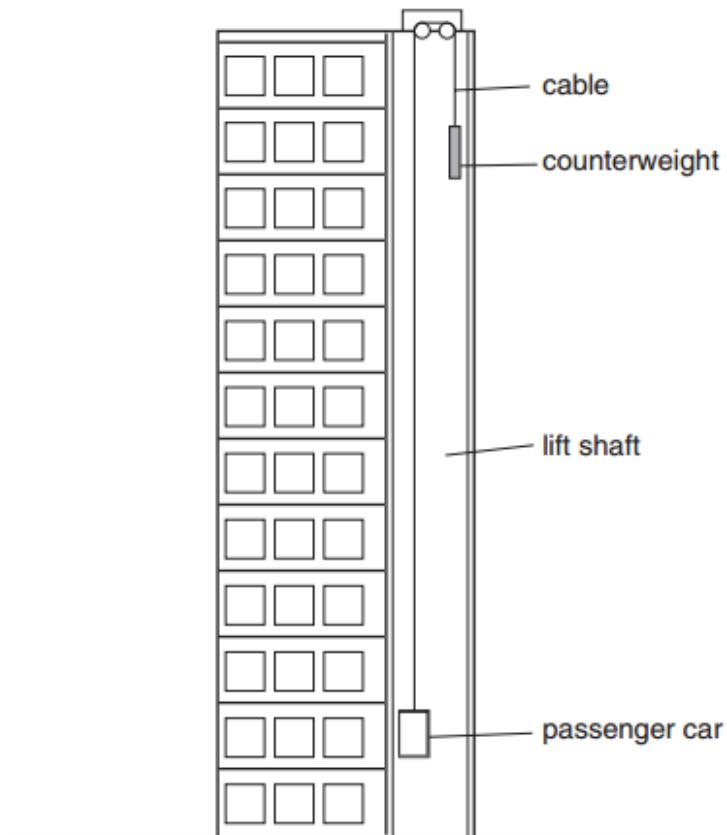

Fig. 2.1
- 2 Modern day lifts in tall buildings are of a relatively simple design. A passenger car is connected to a counterweight by a steel cable which passes over a system of pulleys at the top of the lift shaft, as shown in Fig. 2.1.
The passenger car and the counterweight are of similar mass. A motor, which is connected to the pulley system, is used to raise and lower the passenger car. A braking system enables the passenger car to come to rest at any desired position. If the motor and the braking system were to fail, the passenger car and counterweight would move under the action of gravity until one of several safety features incorporated in the design of the system (not shown on Fig. 2.1) brings the passenger car and counterweight to rest.